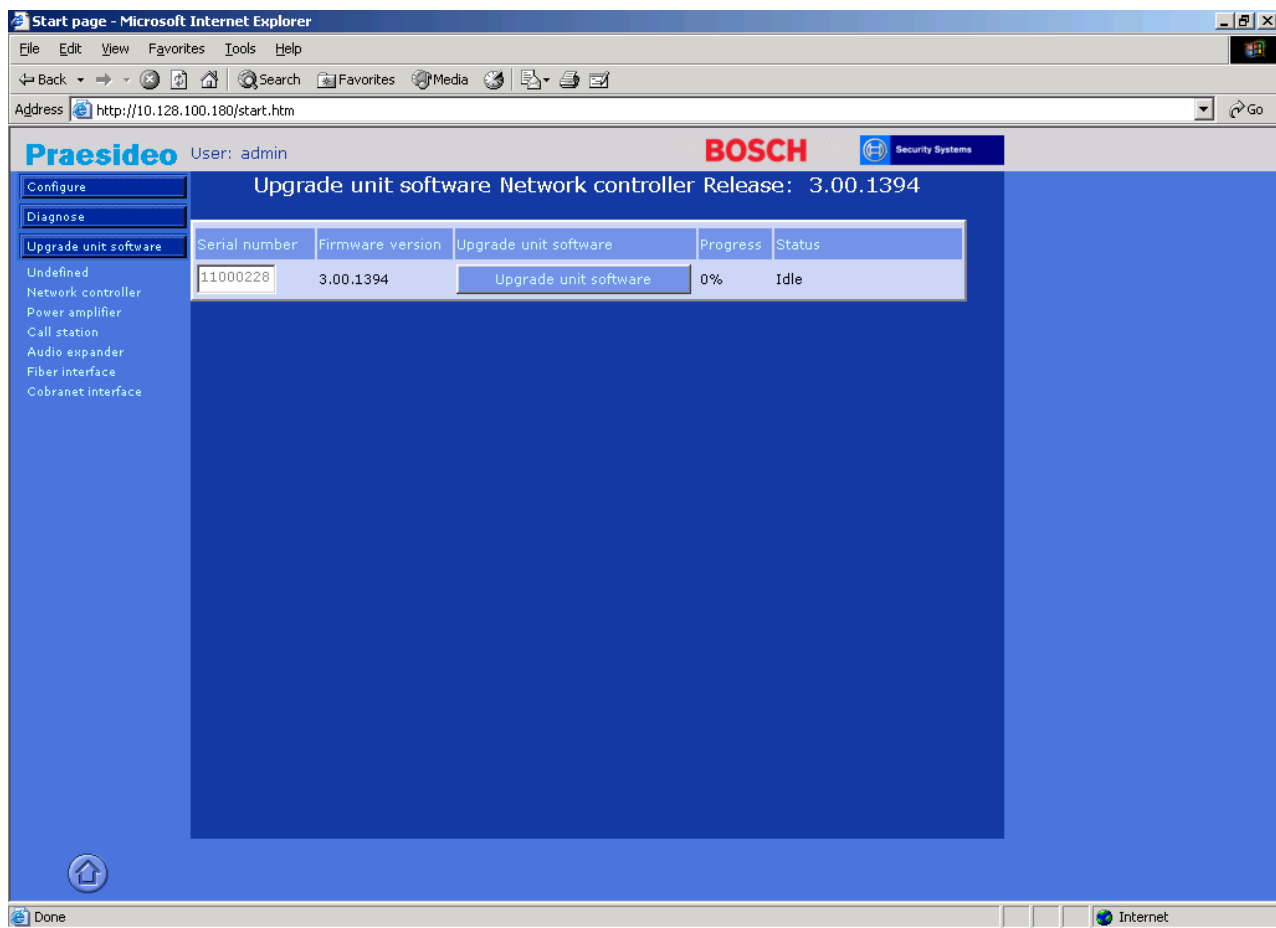

figure 28.11: Upgrade unit software page
- 7 Click *Network Controller*. A screen similar to the one in figure 28.11 appears.